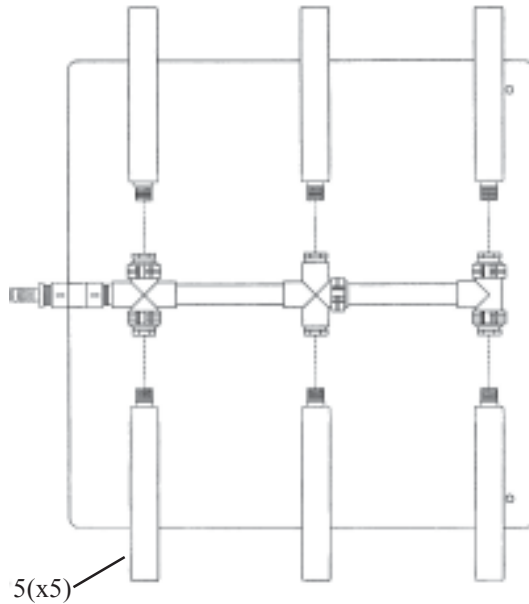

Figure 4e
4. Thread six Diffuser Stones into the Manifold Piping Assembly as shown in Figure 4e: